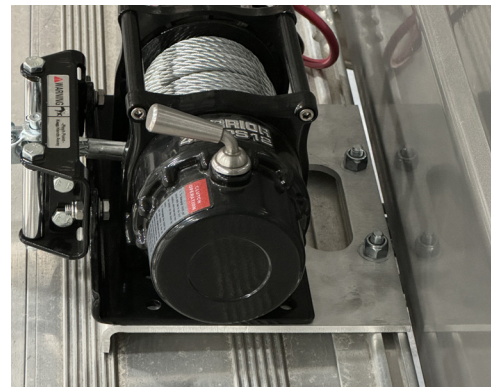

Figure 2. Mounting plates orientation
Step 2. Attach both mounting plates to the winch. Use the 8mm x 35mm hex head fasteners. See figure 2.